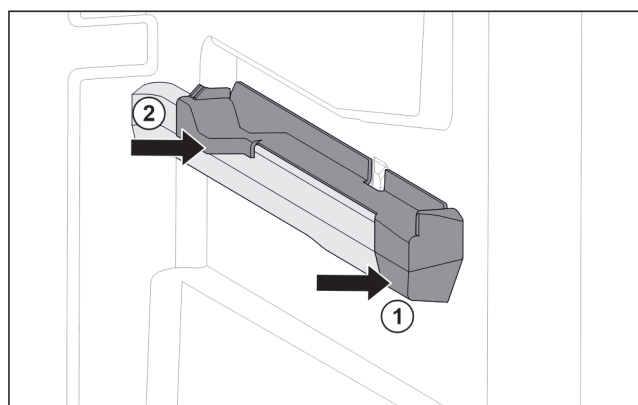

Fig. 19 Attachment on the right moulded rib
- ▶ Position attachment on moulded rib at the front. Fig. 19 (1)
- ▶ Press on attachment at the back. Fig. 19 (2)